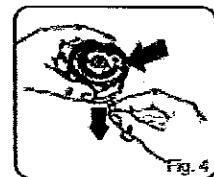

Fig. 4
- Insert the line end through the eyelet in the spool hub as shown in Fig. 4. Pull the line through the hole to maintain tension while placing the spool down into the hub with the notched side exposed.